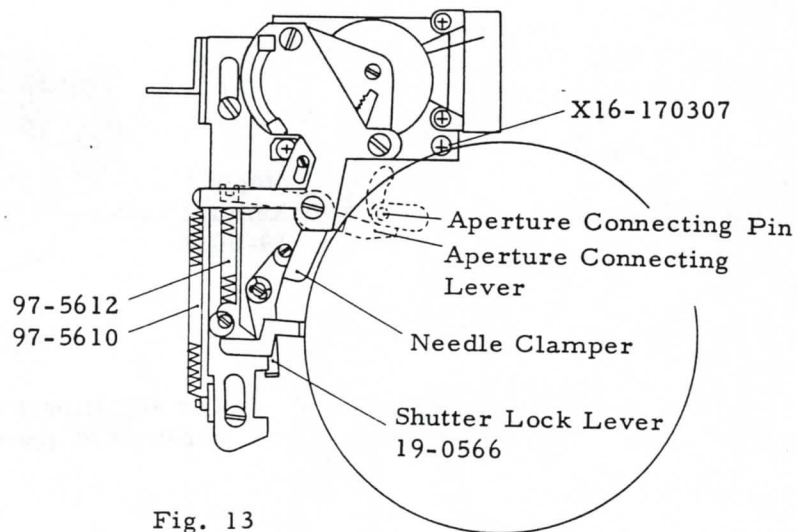

Fig. 13
3. Mounting	3.1 Mounting Exposure Meter Unit The needle clamber should be positioned at the right of Shutter Lock Lever 19-0566, and the Aperture Connecting Lever under the Aperture Connecting Pin of the Shutter. (Fig. 13)